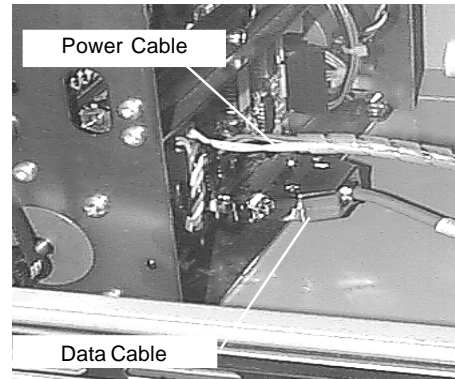

Figure 1. Power and Data Cable
1. Open the ATM control panel and turn the power switch (on the power supply panel) to the OFF (0) position.
2. Open the vault and disconnect the power and data cables from the rear of the existing dispenser. (Figure 1)